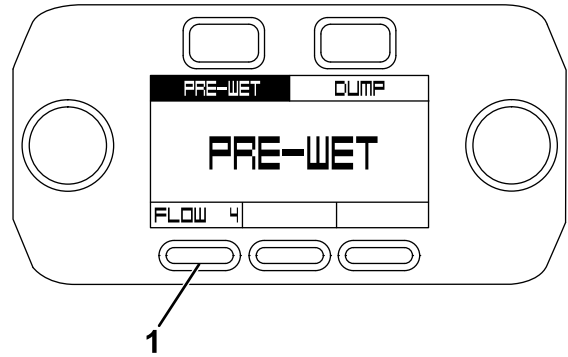

Figure 51
- On the pre-wet screen, press the Flow button to cycle between the flow speeds (Figure 51). There are 4 speeds: Flow 1 is the lowest and Flow 4 is the highest.